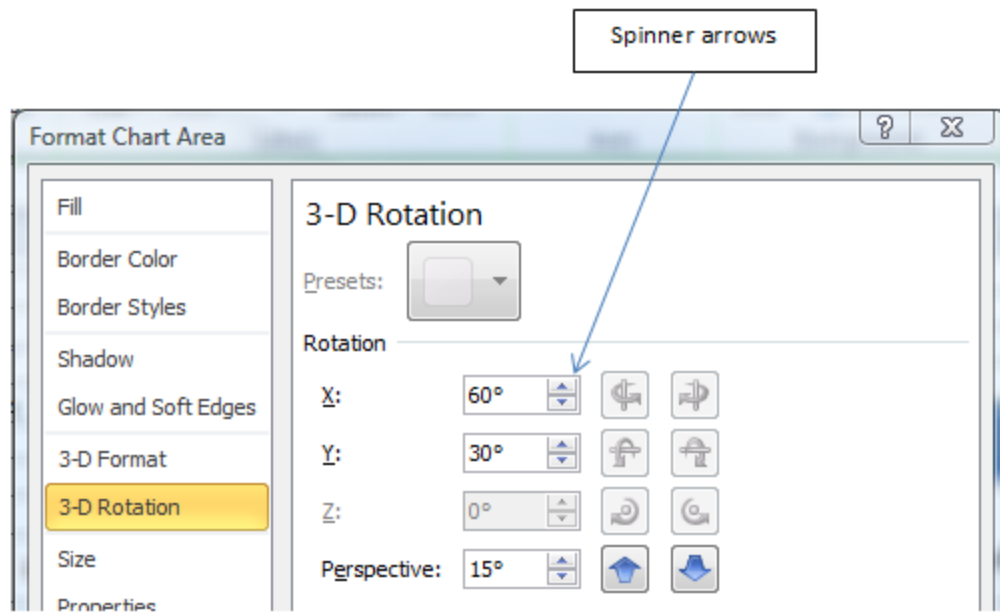

Figure 3.48. Rotate chart to place narrow slices on the right
5. On the Layout tab, in the Background group, click the 3-D Rotation button. The Format Chart Area dialog box displays with the 3-D Rotation option selected. Use the spinner arrows to rotate the chart 60 degrees clockwise in the X direction, as shown in Figure 3.48.